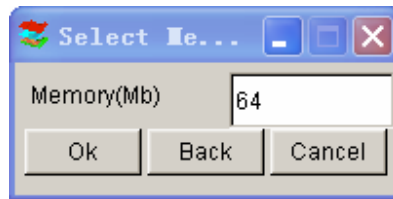

Figure 3.8.2 Select Memory
2. The SELECT MEMORY window appears. See Figure 3.8.2.